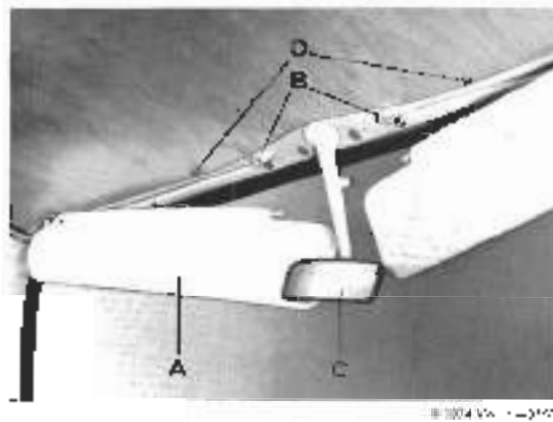

Fig. 7-22. Sun visors A, retainers B, rear view mirror C, and Phillips head screws D.
4. Remove the sun visors together with their retainers, the rear view mirror, and the interior lamp. Then remove the Phillips head screws indicated in Fig. 7-22.